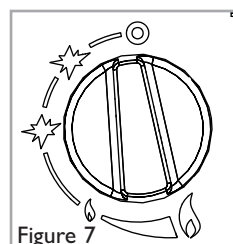

Figure 7
- **Corinthia models** : The control knob is located in the centre of the appliance and is normally accessed by swinging the glass panel upwards from the bottom. The glass panel is not fitted until section 8.3. The control knob is marked as shown in figure 7.